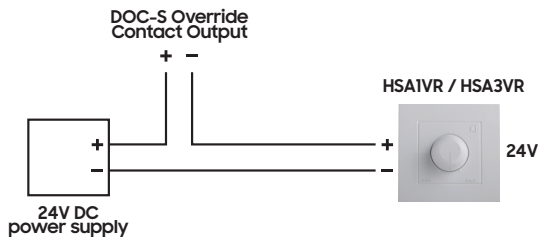

Figure 6. Contact connection diagram
1. After all connections are made according to the diagrams, connect power (220VAC) to input No. 1 (Fig. 6) on the rear panel of the DOC-S device.